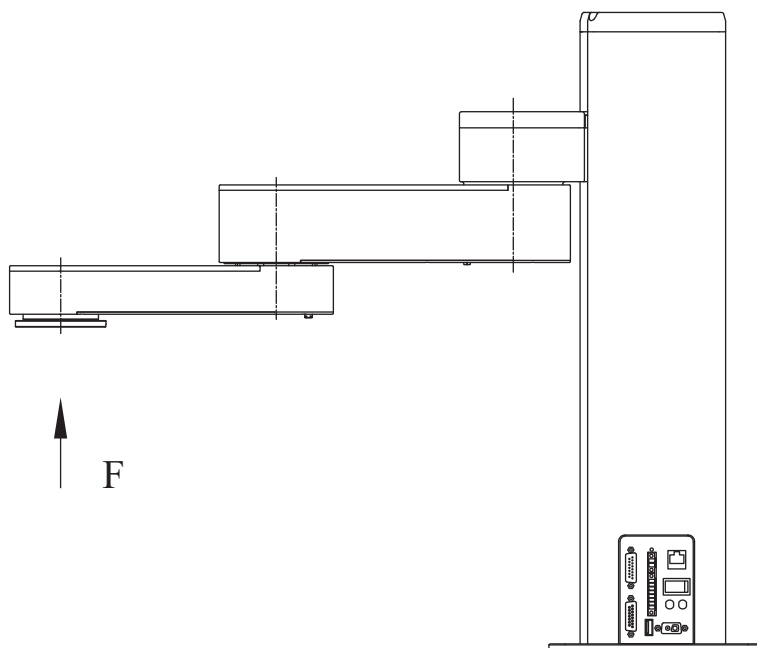

Figure 10
The external force of the Z axis shall not exceed 120N (as shown in Figure 10).
5. Power cable hot-plugging forbidden. Warning when the positive and negative poles of the power supply are reversed (as shown in Figure 10).